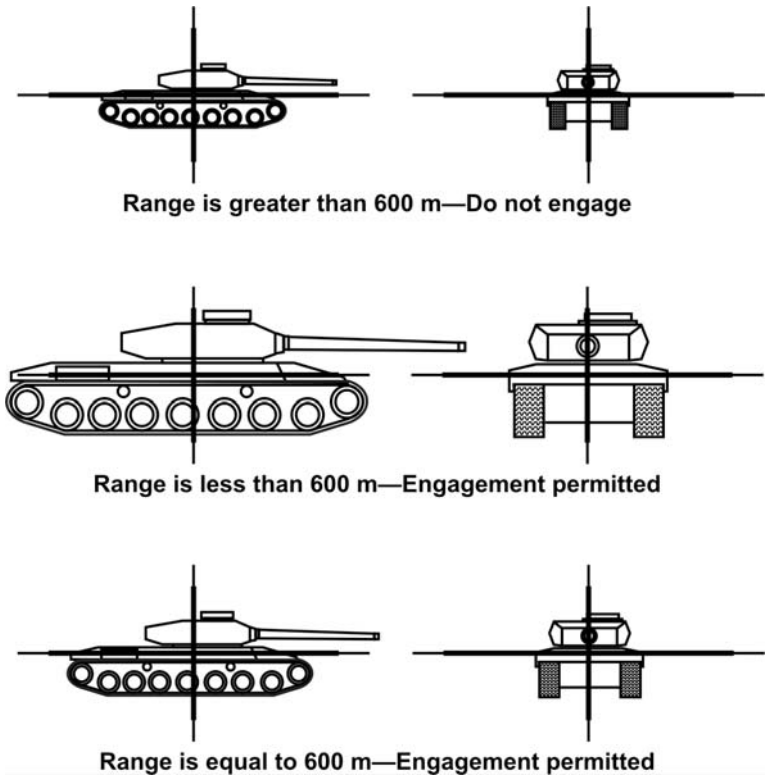

Figure 2-17: Determining Engagement Range
- b. **Central Crosshairs** twice the thickness of the large crosshairs, measuring 11 x 4 mils. This corresponds approximately to a tank 6.6 metres long x 2.4 metres high at a range of 600 metres. If a tank target appears larger than the central crosshairs, it is closer than 600 metres and can be engaged. If the target appears smaller than the central crosshairs, it is beyond 600 metres range and cannot be engaged (see Figure 2-17).